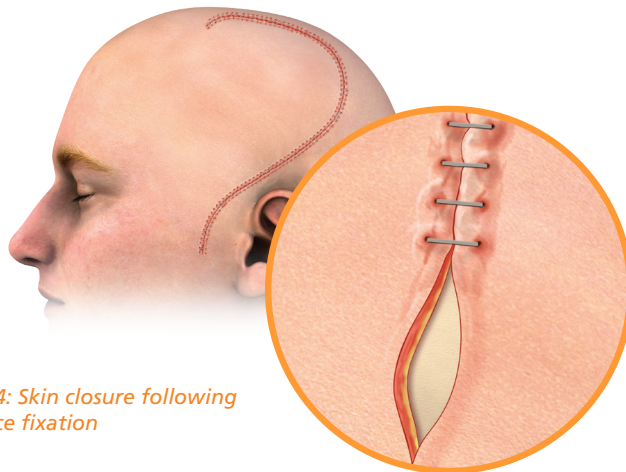

Figure 14: Skin closure following the device fixation
1. Close skin in layers and finish surgery. (Figure 14)